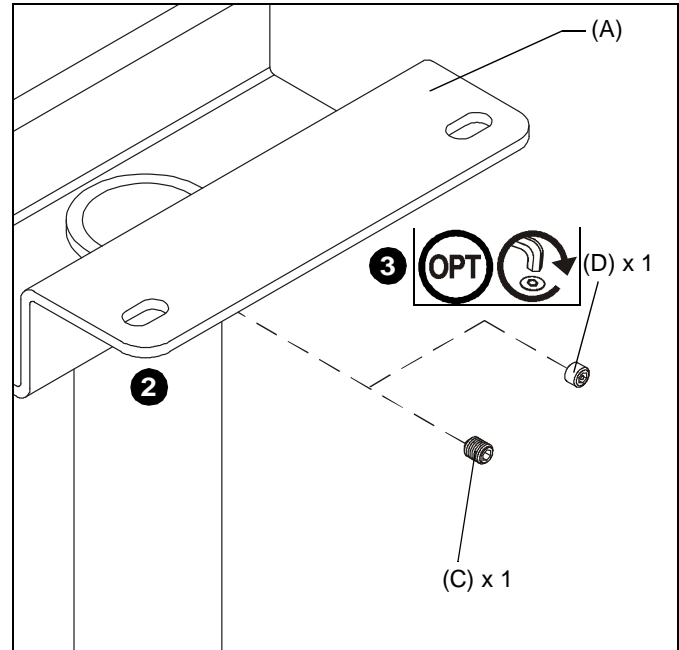

Figure 4
3. Secure extension column by *one* of the following methods (See Figure 4):
- Install one 5/16" x 3/8" set screw (C) into threaded hole, tightening firmly against column.
- **OPTIONAL:** Install one 5/16" x 1/4" security set screw (D) into threaded hole, tightening firmly against column.